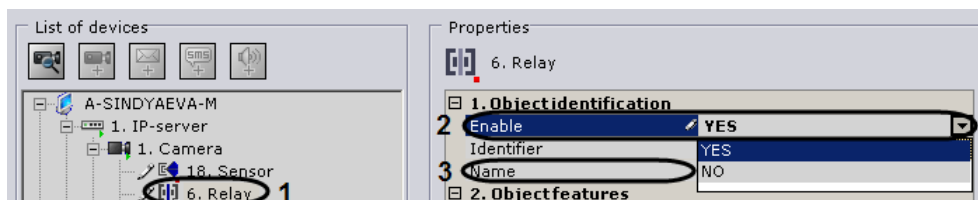

Fig. 6.4—26 Configuring a Relay Object
2. Enable the device (Fig. 6.4—26, 1).
3. Enter the name of the relay (see Fig. 6.4—26, 2).